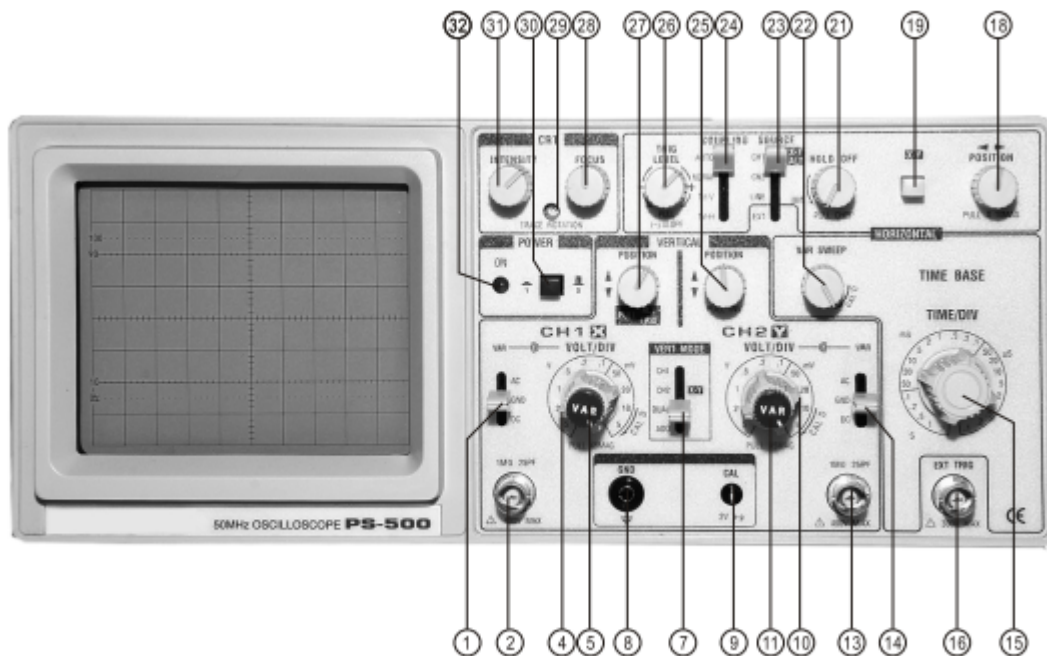

Figure 10: An oscilloscope (courtesy: pintek.com)
2) See Figure 10. Turn on the oscilloscope by pressing **POWER Pushbutton (30)**. Turn on the **X-Y button (19)**. Keep the **AC-GND-DC Switch** of both channels (**1, 14**) to AC position. Keep the **VERTICAL Mode Switch (7)** at **CH-2/X-Y** position. Keep the **Trigger COUPLING Switch (24)** at **Auto** position. Keep the **Source switch (23)** at position **Channel-1/X-Y**.
**NOTE: Figure 10 is collected from [http://www.pintek.com.tw/pdf/Analog\\_Oscilloscope\\_0224.pdf](http://www.pintek.com.tw/pdf/Analog_Oscilloscope_0224.pdf) which is a free manual available in internet for their customers.**